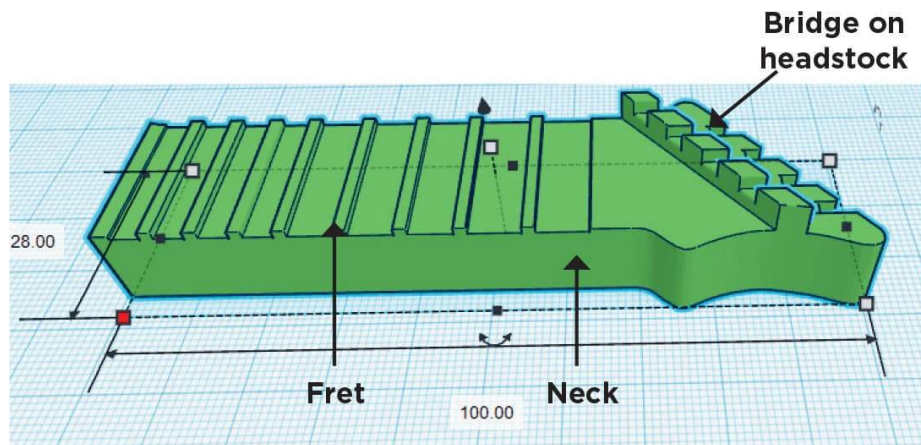

FIG. 7: Create the guitar neck, frets, and headstock using basic shapes.
5. The neck and frets with headstock are composed of a series of basic shapes. Frets should not be more than 2 mm thick. See fig. 7 for a sample design.